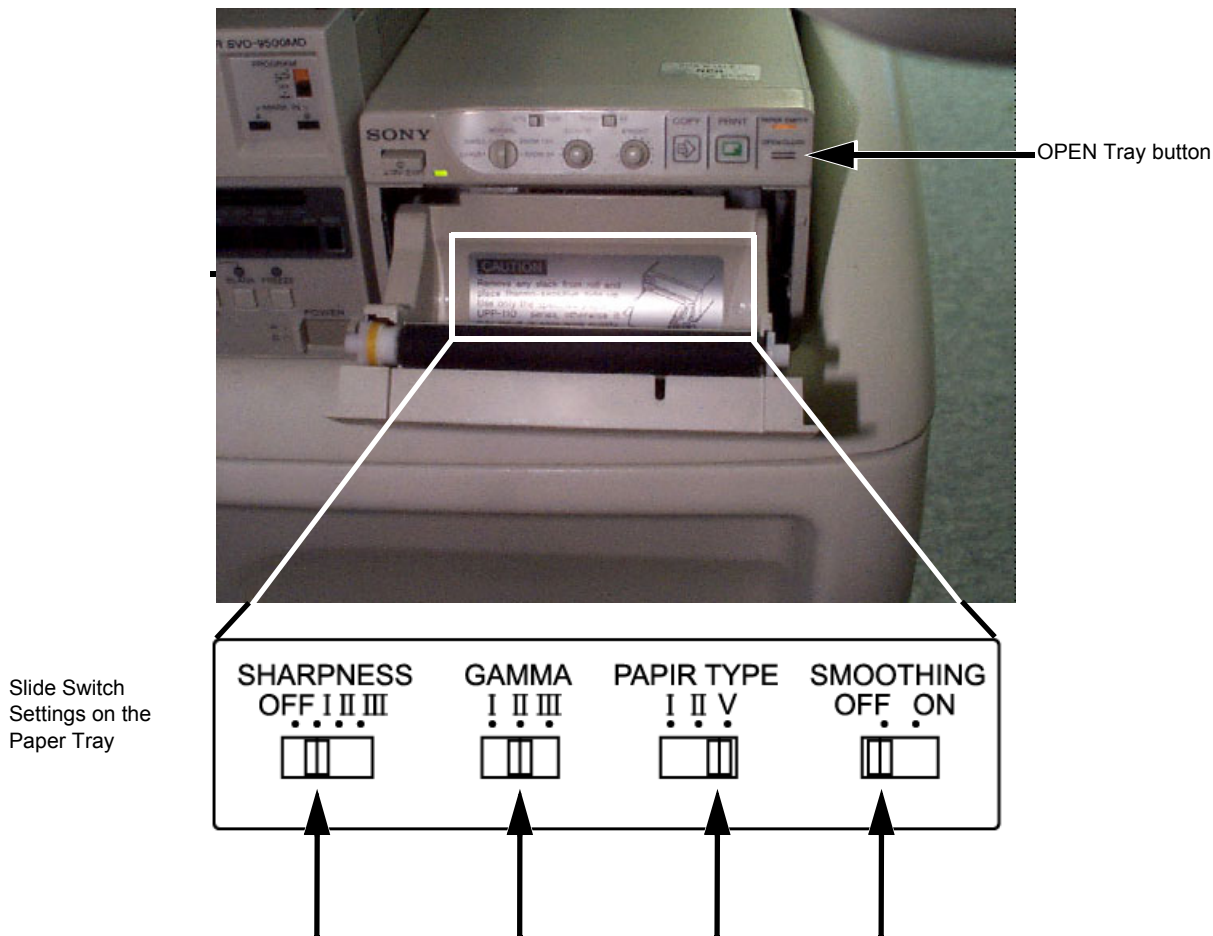

Figure 8-104 B/W Video Printer, Slide Switches Location and Settings on the Paper Tray
- 2.) Ensure that the switches on the Paper Tray are set as shown in Figure 8-104 below.